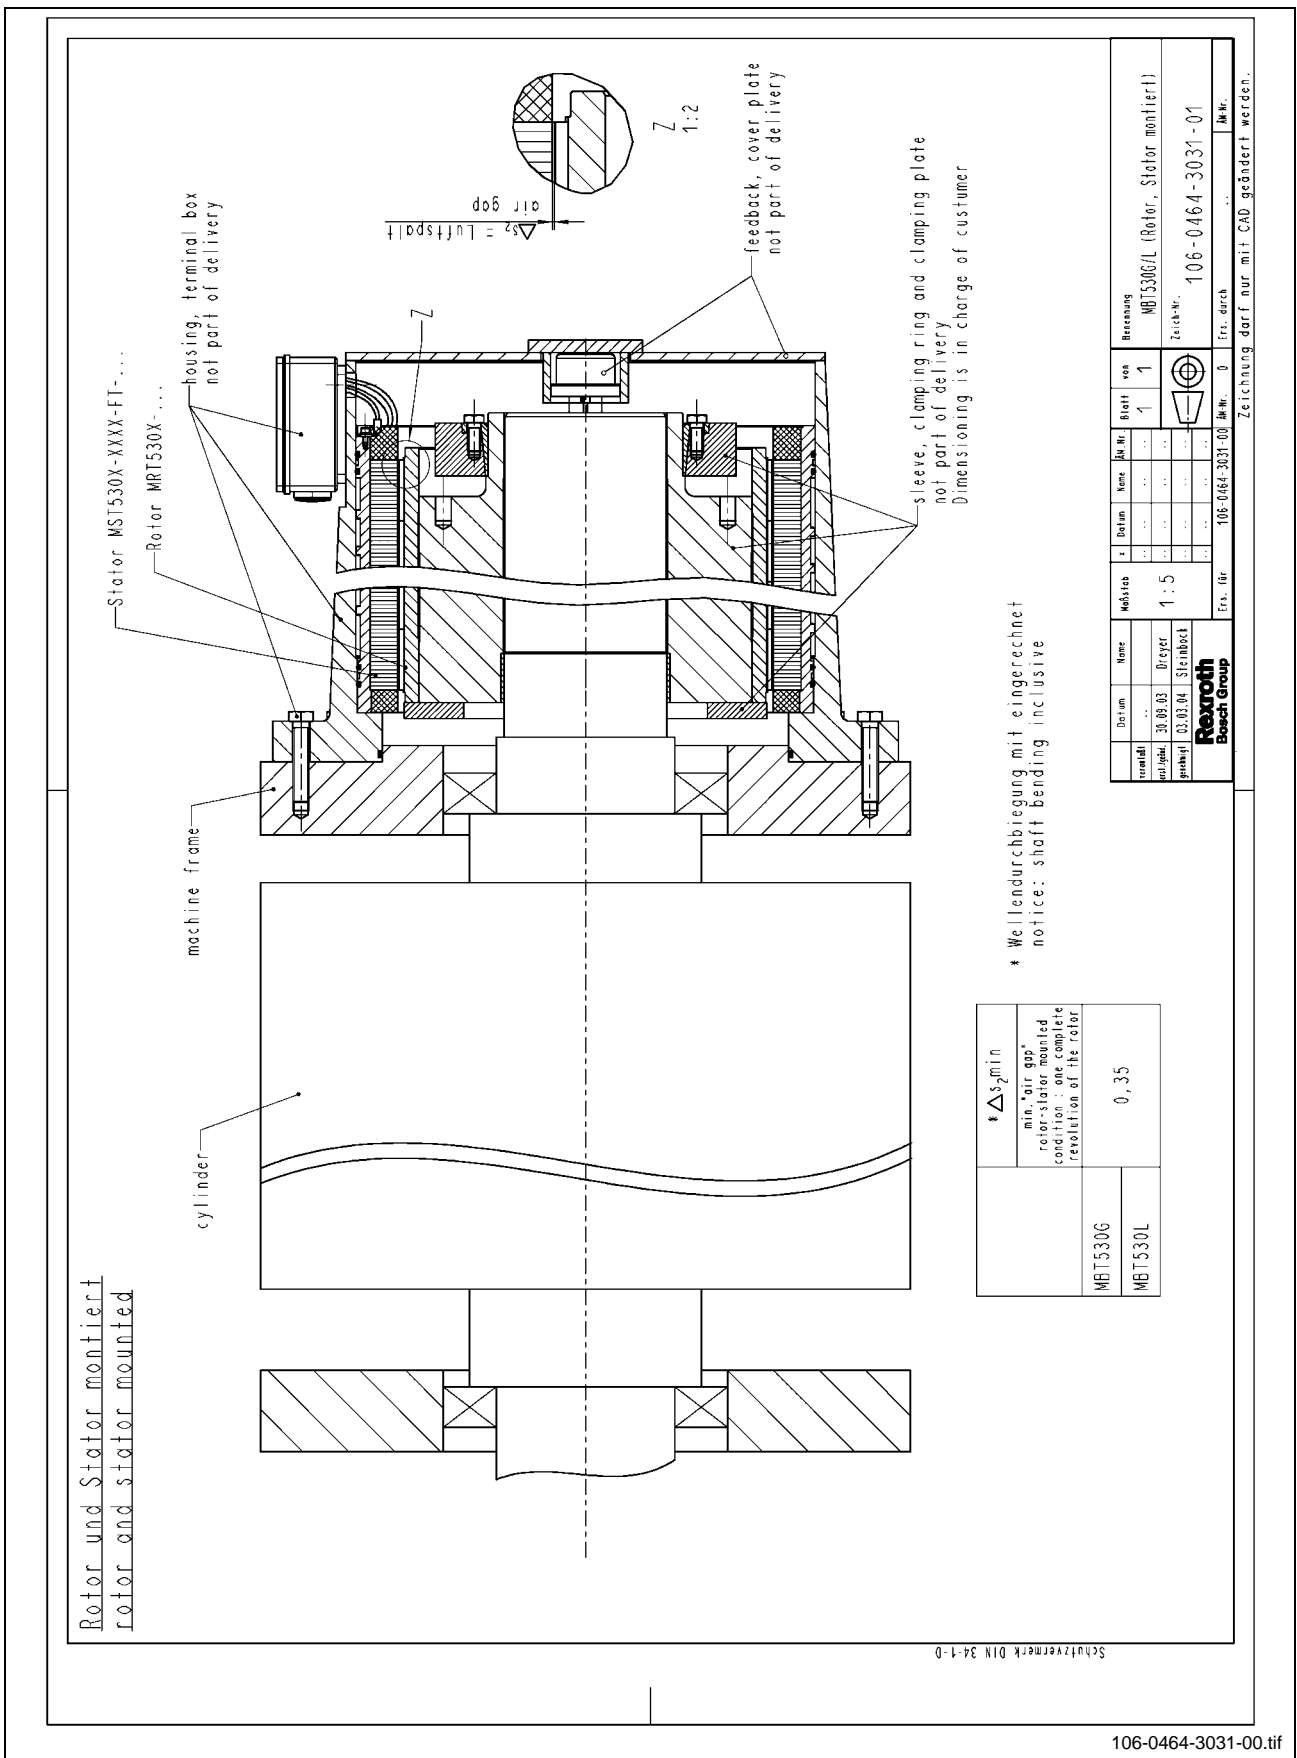

Fig. 15-9: Installation dimension sheet, MBT530G/L
Therefore, the shaft diameter must be dimensioned in such a manner that the required air gap s_2 (see dimension sheet in Fig. 15-9) after assembling the rotor and stator – taking into account the bowing of the shaft – is not less than the minimum value anywhere.
4. Fasten the stator, together with the housing, onto the machine. Center the housing over the centering unit provided for this purpose on the machine. (see Fig. 15-9)